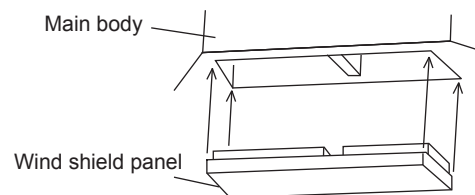
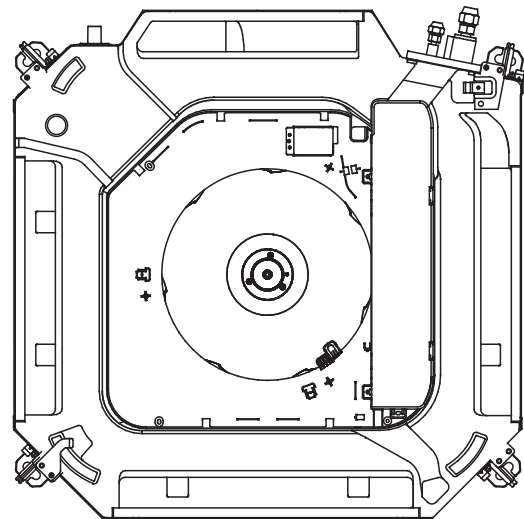
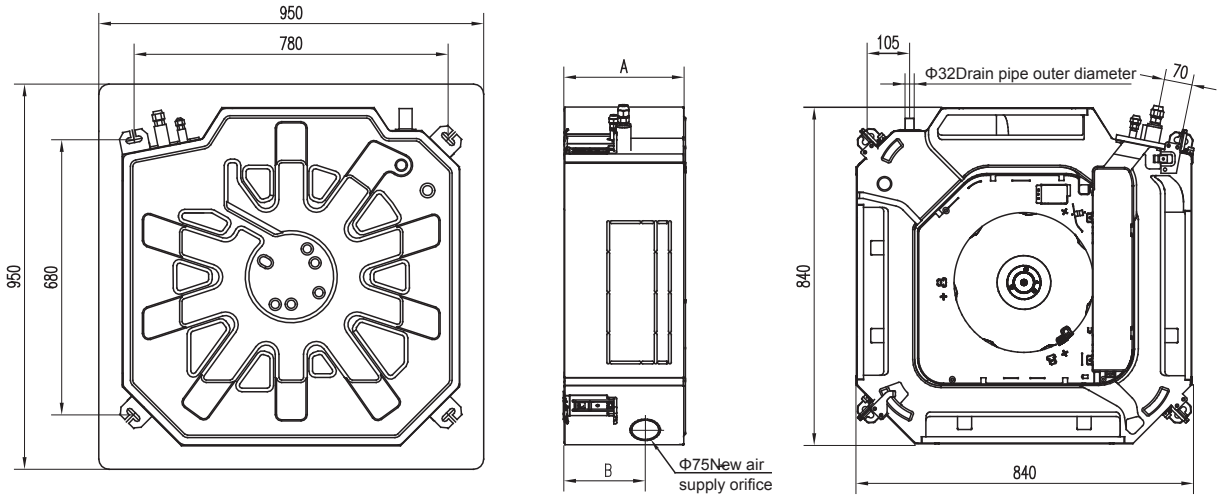

Fig. 4-4
Fig. 4-6
Fig. 4-7
- 1 Cut a quadrangular hole of 910 x 910 mm in the ceiling according to the shape of the installation paper board. (refer to Fig. 4-4, Fig. 4-6 and Fig. 4-7)
- Before installing the indoor unit, first remove the buffer between the fan and flared mouth. Otherwise, the fan motor will be damaged (See Fig. 4-6).